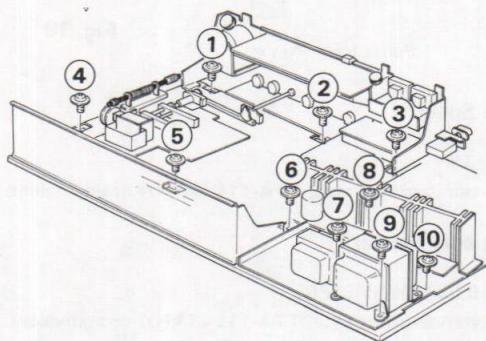
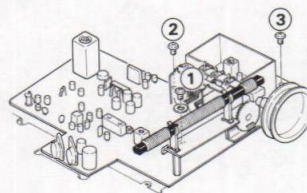

Fig. 8
Fig. 10
- 1) Remove 10 screws, (1) through (10). (Refer to Fig. 8).
- 1) Remove 2 screws, (1) and (2). Pull tuner circuit board in direction shown by arrow to remove. (Refer to Fig. 10) (Refer to Fig. 8)